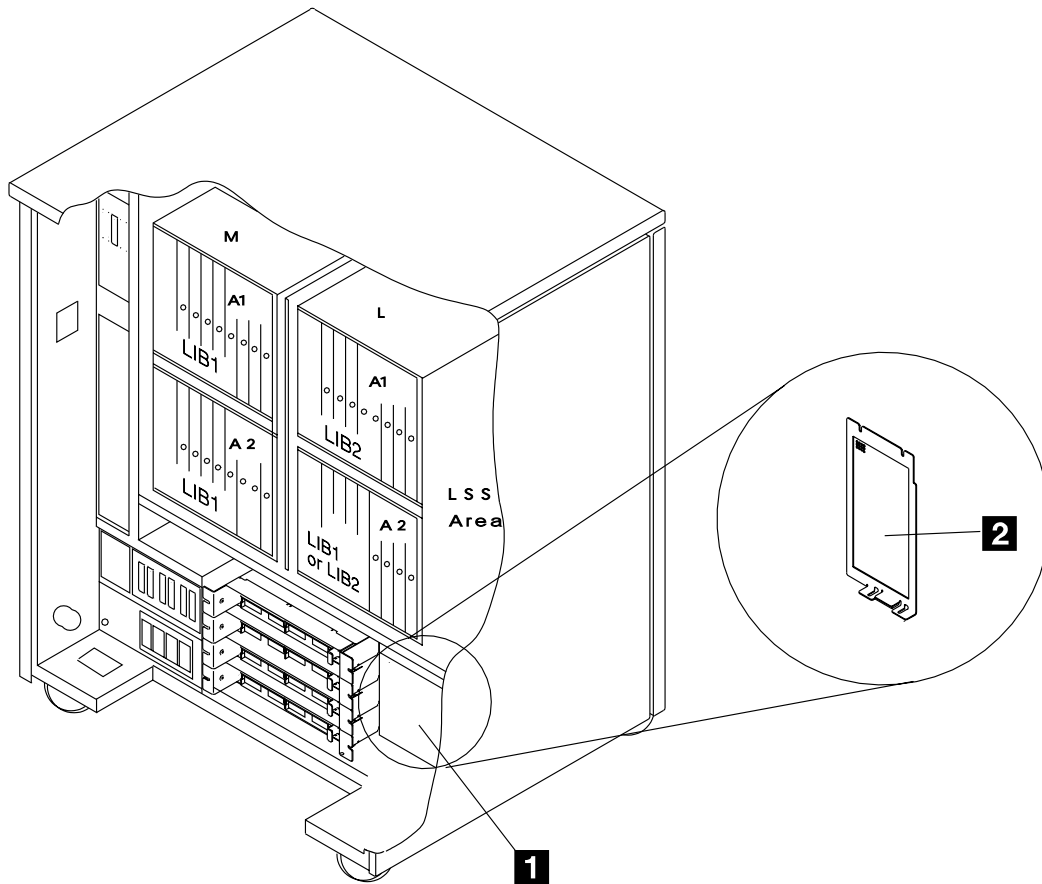

Figure 6-6. Basic Board Cover (Rear Model 17A)
Step 1. \_\_\_\_ At the bottom right rear of the 3745, locate the basic board 01G-A1 (see Figure 6-6).
Step 2. \_\_\_\_ Remove cover **1** (see Figure 6-6).
Step 9. \_\_\_\_ Install the new cover **2** (PN 58G5305) in place of the cover removed in step 2 on page 6-7 (see Figure 6-6 on page 6-7).